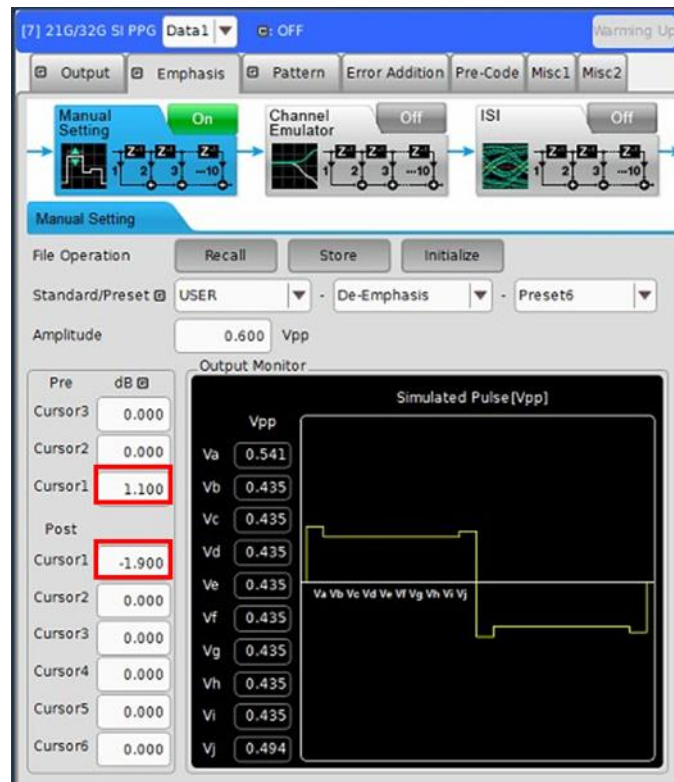

FIGURE 54. DEEMPHASIS CONFIGURATION (1)
Deemphasis Configuration (1)	Preshoot Enabled, Deemphasis Enabled. See Figure 54.